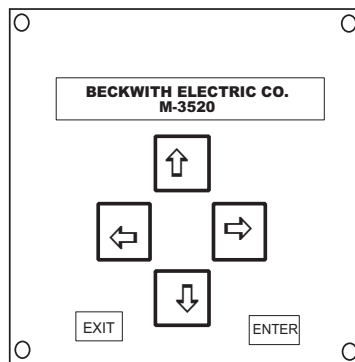

Figure A-1 Human-Machine Interface Module
- A. All non-bold screens shown on forms require data inputs. Whatever is in that screen when **ENTER** button is pushed (see Figure A-1) will be installed in the M -3520 relay.